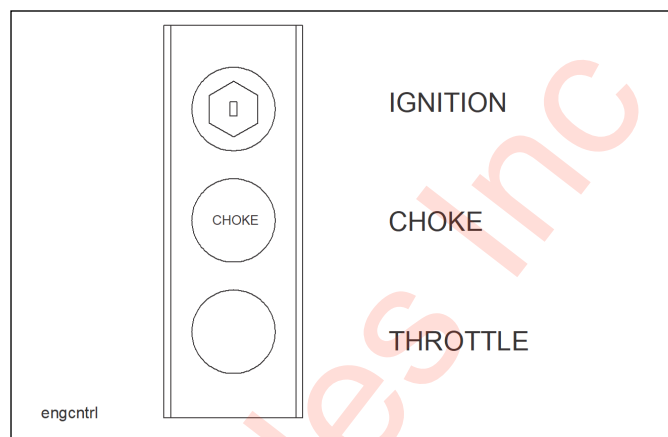

Figure 3-9: Engine Control Panel
- The Engine Ignition Switch, Choke and Throttle are on the Engine Control Panel mounted on the drivers side of the engine package (See Figure 3-9.)
- The **HYDRAULIC POWER SUPPLY ENGINE THROTTLE** controls the speed at which the engine operates (See Figure 3-9.) It is a variable position control: